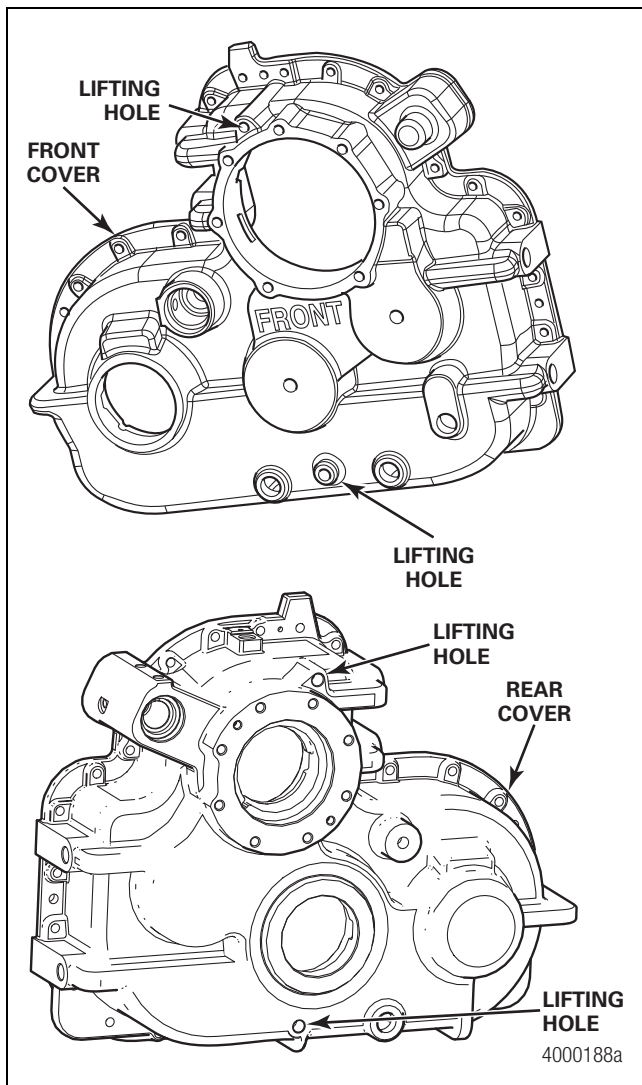

Figure 3.6
15. Install eye-bolts in the lifting holes located in either half of the transfer case housing. Lifting holes are located at the top and bottom of each half of the transfer case near the center. Figure 3.6.